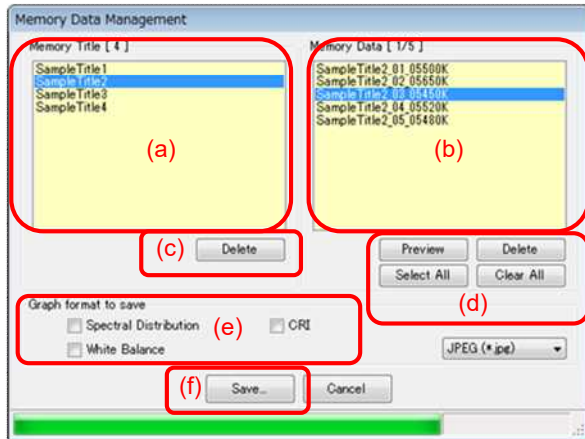
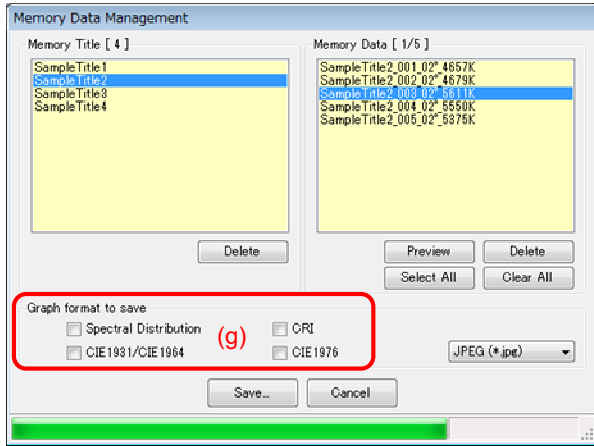

Figure 41 Memory Data Management [C-700/C-700R]
Figure 42 Memory Data Management [C-7000]
The memory data are saved in the CSV format. If item(s) shown with (e) in Figure 41 or item(s) shown with (g) in Figure 42 have check mark(s), relevant graph image(s) are saved. The names of files to be saved are shown in “Table 5 File names of memory data to be saved .”
*2 The “MemoryDataName” refers to the names displayed at (b) in Figure 41 (➡ Page 35).